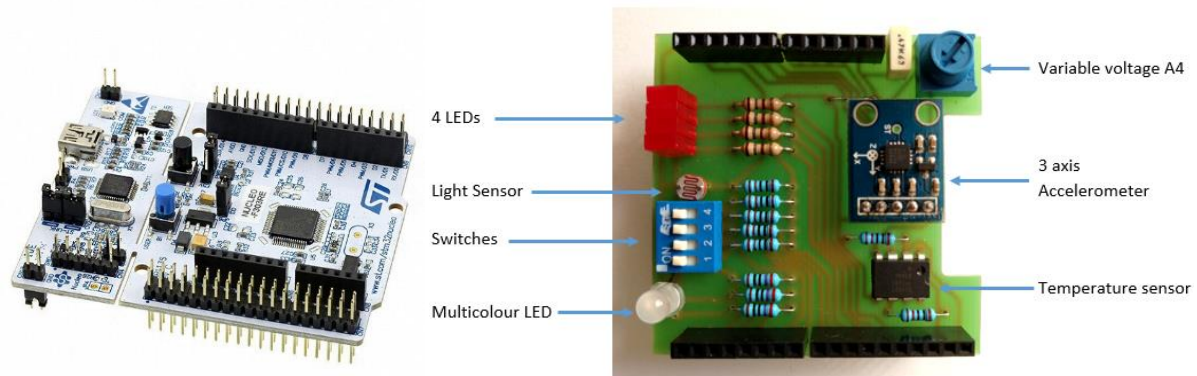

Figure 1. Nucleo STM32F303RE ARM board and the specially made sensor board.
1. You will use the Nucleo STM32f303RE ARM board and specially made sensor board, an application shield, shown in Figure 1.